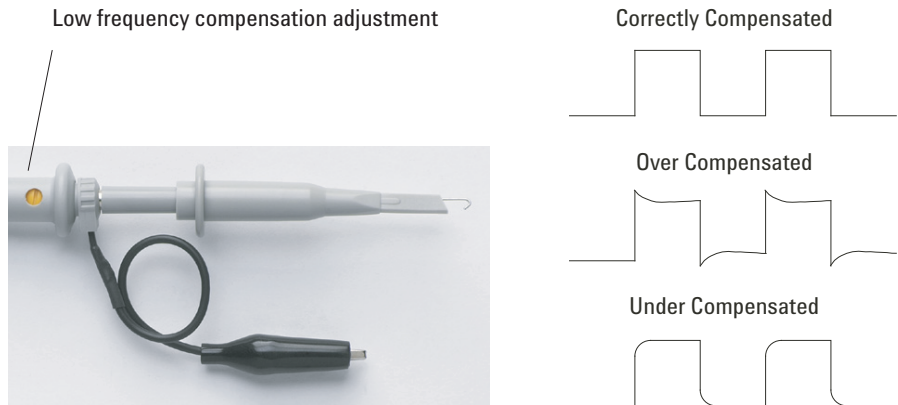

Figure 4 Low Frequency Probe Compensation
- 4 If waveform does not appear like the Correctly Compensated waveform shown in **Figure 4**, then use a nonmetallic tool to adjust the low frequency compensation adjustment on the probe for the flattest square wave possible.